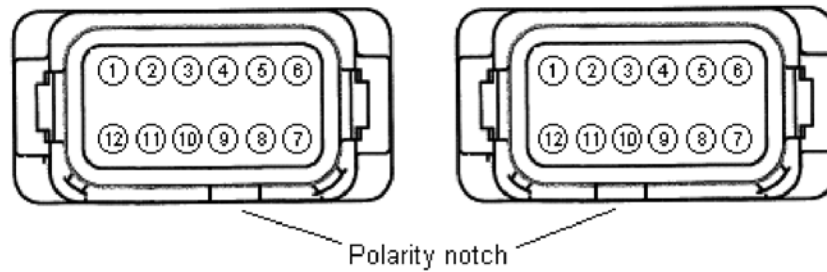
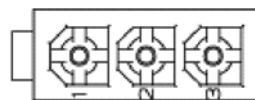

Figure 4-4. System Connectors J1 (left) and J2 (right) Terminal Position
Figure 4-6. Connector J3 CAN Port Pin Assignments
Generator line current is stepped down through a user-supplied current transformer (CT) on Phase B. Secondary current (5A) from that transformer is applied to terminals labeled CT1 and CT2. Consult current transformer instruction manual for CT polarity identification and install per Figure 4-7. See Figure 4-4 and Table 4-2 for terminal assignments.
Generator line current is stepped down through user-supplied current transformers. Secondary current (5A) from these transformers is applied to the J2 connector. Consult current transformer instruction manual for CT polarity identification and install per Figure 4-6. See Figure 4-4 and Table 4-2 for terminal assignments. *Note: All transformers should have the same CT ratio.*
The CAN port on the rear panel uses an AMP/Tyco Mini Mat-N-Lok connector. Figure 4-6 illustrates the pin assignments of the CAN port and Table 4-5 identifies the pin functions of the CAN port.